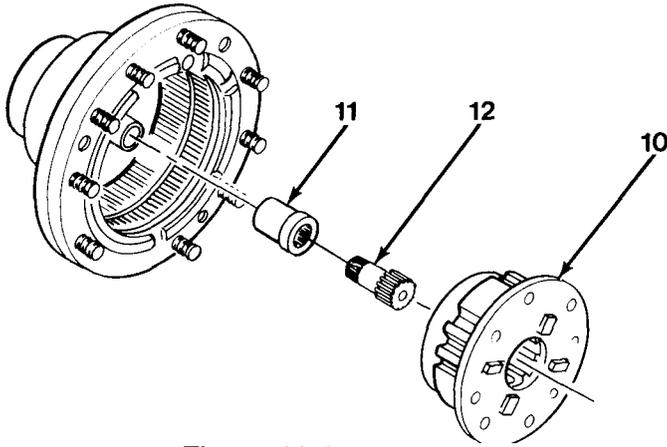

Figure 12-3
6. Install planetary carrier assembly (10, Figure 12-3).